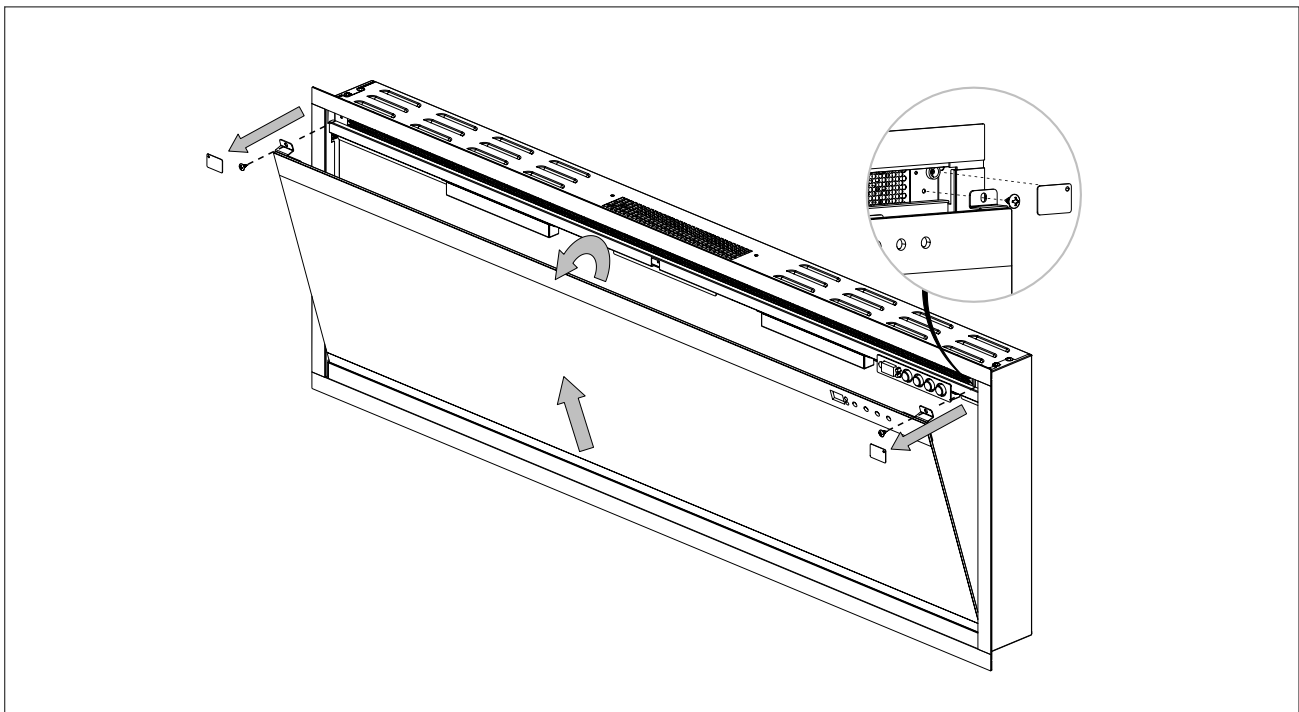

Fig. 13
- To remove the front glass, remove the magnetic covers covering the securing screws for the front glass. (The magnetic covers are included in hardware bag when first installing the fireplace) **(Fig 13)**